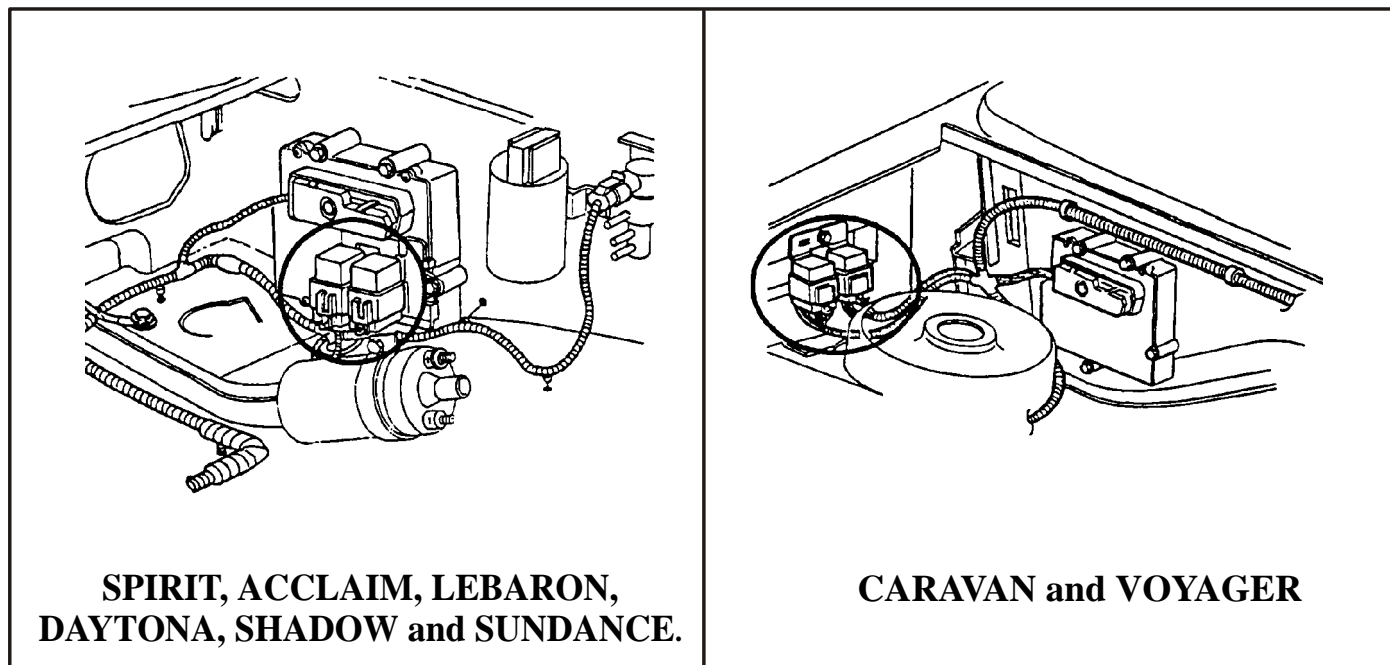
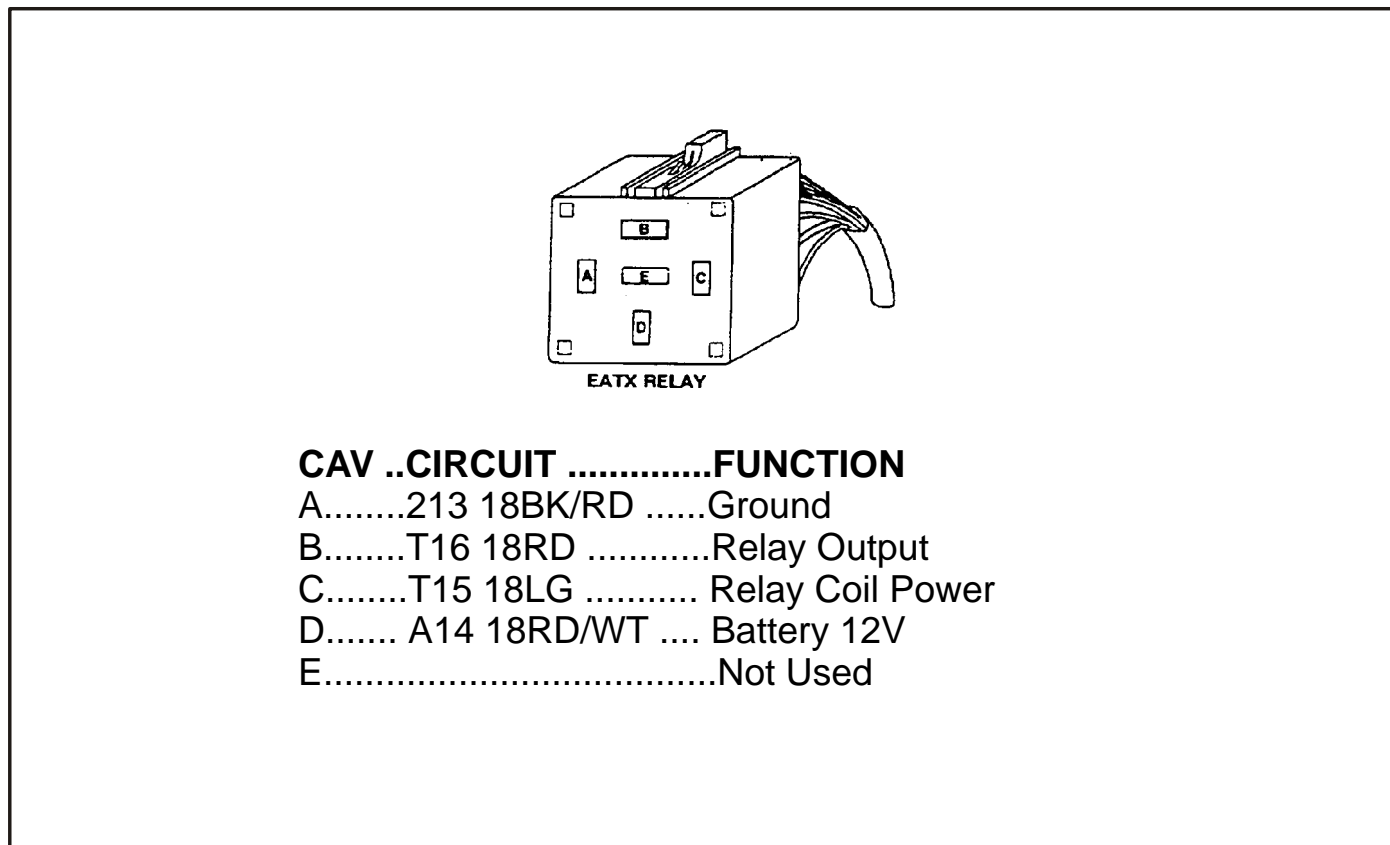

Figure 6
Figure 7
(1) Locate the EATX relay location by using figure 6 and refer to figure 7 for cavity identification.
(2) Carefully bend the EATX relay bracket to gain access to back probe the connector. NOTE: FOLLOWING TEST CANNOT BE MADE WITH CONNECTOR REMOVED.
(3) Using a volt meter set to DC volts, take the positive lead and carefully back probe the D terminal (Red with white strip wire). Place the negative lead onto the ground post of the battery. Battery voltage should be seen here with Ignition switch either on or off. If no voltage appears, inspect and repair the wiring for an open or a blown fusible link. If there is battery voltage, go to step 4.
(4) Using an OHM meter, take the positive lead and carefully back probe the A terminal (Black with red strip wire) and put the negative lead to a good ground. If you have good continuity, go to step 5. If there *is* no continuity, the wire coming out of terminal A has a bad ground. Repair the ground wire coming out of terminal A and repeat this check to insure that you have good continuity.